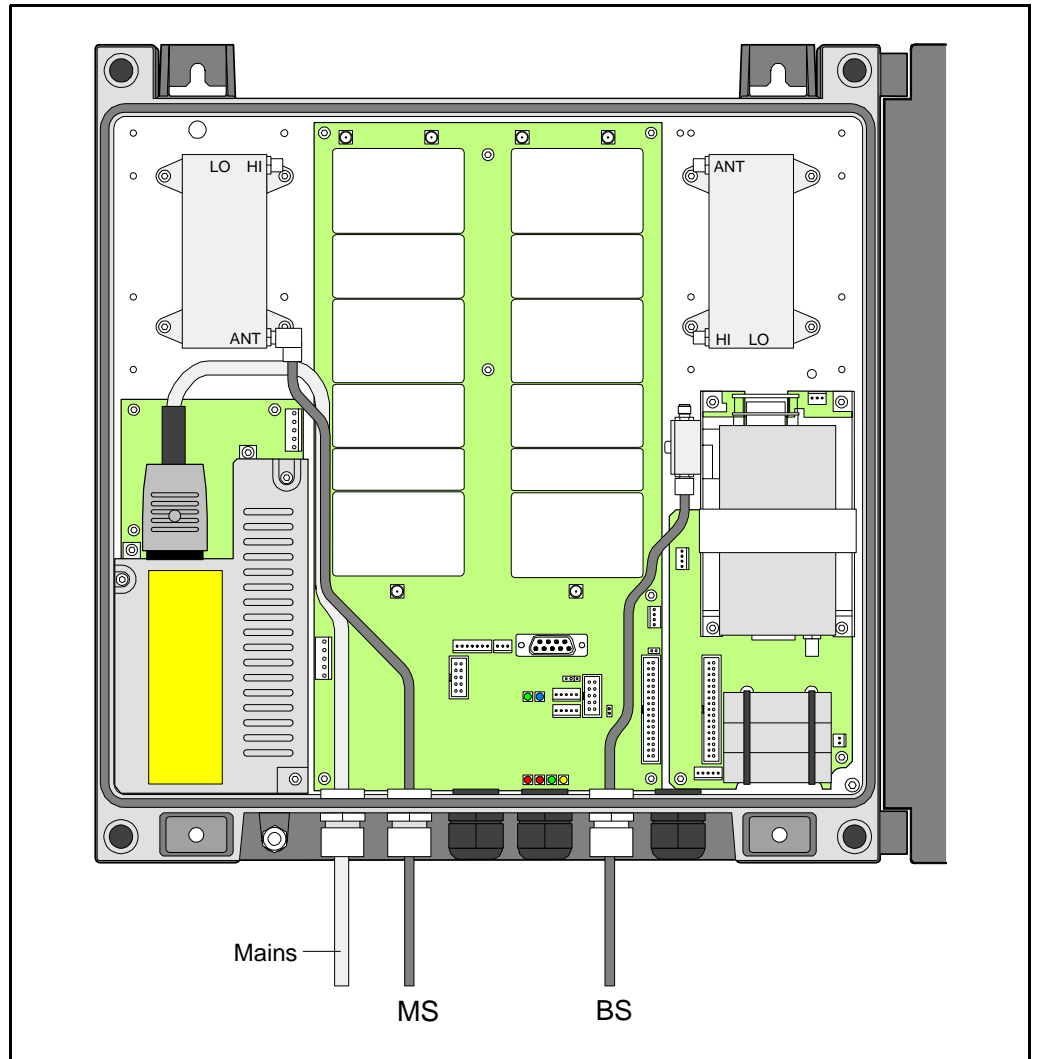

Figure 3-6. MS and BS antenna connections
1. Connect the service antenna (MS) and donor antenna (BS) coaxial cables (see Figure 3-6). N type female connectors are used in the repeater.